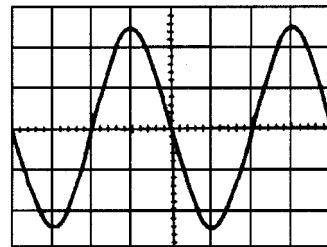

Figure A3.1
- 1 A conductor, 25 cm long is situated at right angles to a magnetic field. Determine the strength of the magnetic field if a current of 12 A in the conductor produces a force on it of 4.5 N. (3)
- 2 An electron in a television tube has a charge of 1.5×10^{-19} C and travels at 3×10^7 m/s perpendicular to a field of flux density $20 \mu\text{T}$. Calculate the force exerted on the electron in the field. (3)
- 3 A lorry is travelling at 100 km/h. Assuming the vertical component of the earth's magnetic field is $40 \mu\text{T}$ and the back axle of the lorry is 1.98 m, find the e.m.f. generated in the axle due to motion. (5)
- 4 An e.m.f. of 2.5 kV is induced in a coil when a current of 2 A collapses to zero in 5 ms. Calculate the inductance of the coil. (4)
- 5 Two coils, P and Q, have a mutual inductance of 100 mH. If a current of 3 A in coil P is reversed in 20 ms, determine (a) the average e.m.f. induced in coil Q, and (b) the flux change linked with coil Q if it wound with 200 turns. (5)
- 6 A moving coil instrument gives a f.s.d. when the current is 50 mA and has a resistance of 40Ω . Determine the value of resistance required to enable the instrument to be used (a) as a 0–5 A ammeter, and (b) as a 0–200 V voltmeter. State the mode of connection in each case. (6)
- 7 An amplifier has a gain of 20 dB. Its input power is 5 mW. Calculate its output power. (3)
- 8 A sinusoidal voltage trace displayed on a c.r.o. is shown in Figure A3.1; the 'time/cm' switch is on 50 ms and the 'volts/cm' switch is on 2 V/cm. Determine for the waveform (a) the frequency (b) the peak-to-peak voltage (c) the amplitude (d) the r.m.s. value. (7)